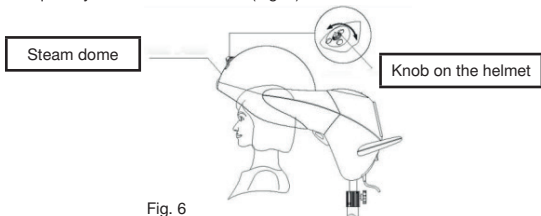

Fig. 6
- Adjust inclination angle of the helmet to arrange the helmet centrally above the customer's forehead / nape; the steam dome should cover the customer's hair completely. The customer's face and eyes must be outside the steam dome. The knob on the helmet turns simply and freely to control quantity of the emitted steam. (Fig. 6).